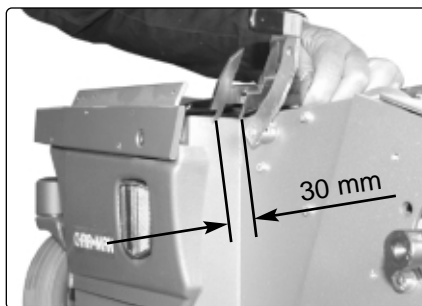

Fig. 2. Measure and mark 30 mm from the corner
4. Measure and make a mark 30 mm from the corner, see Fig. 2.